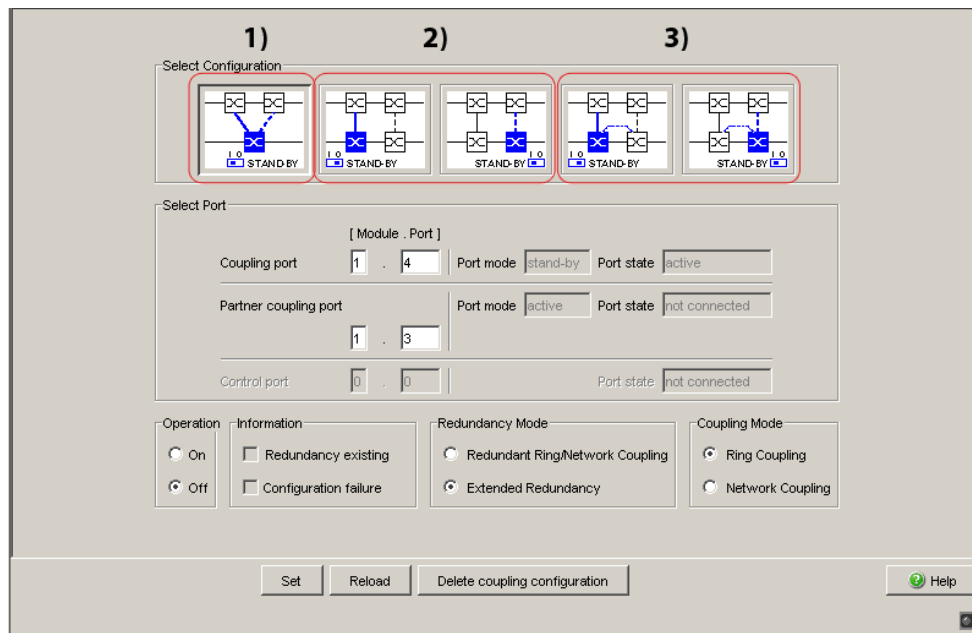

Figure 19: Choosing the ring coupling configuration (when the DIP switch is off, or for devices without a DIP switch)
- You first select the configuration you want: One-Switch coupling ("1"), two-Switch coupling ("2") or two-Switch coupling with control line ("3"), (see fig. 19).